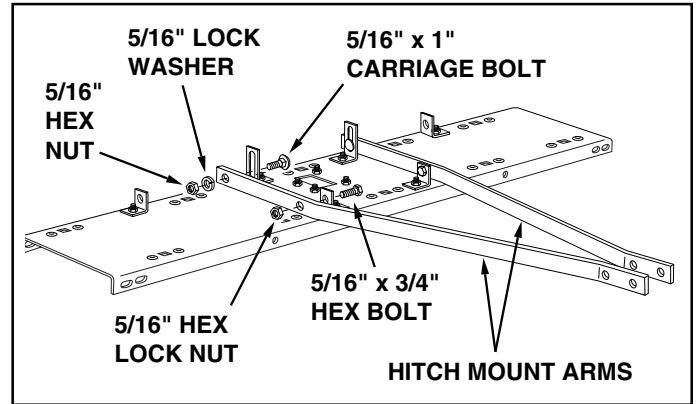

FIGURE 3
5. Fasten the hitch mount arms to the outside of the angle brackets at the front of the tine shield. Use two 5/16" x 3/4" hex bolts and 5/16" hex lock nuts. **Tighten** and then **loosen** the nuts slightly. See figure 3.
6. Fasten the hitch mount arms to the outside of the hitch arm mount brackets at the rear of the tine shield. Use two 5/16" x 1" carriage bolts, 5/16" lock washers and 5/16" hex nuts. **Do not tighten yet.** See figure 3.